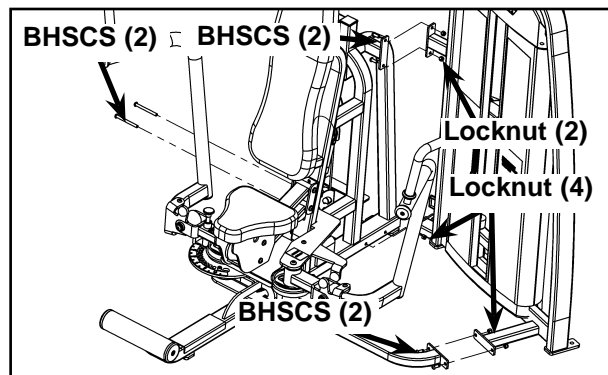

Figure 2
- C. With an assistant, carefully remove the six Button Head Socket Cap Screws (BHSCS) securing the two halves of the frame. See Figure 2.
- E. With an assistant, carefully attach each half together using the six BHSCS removed in step 4B. See Figure 2.